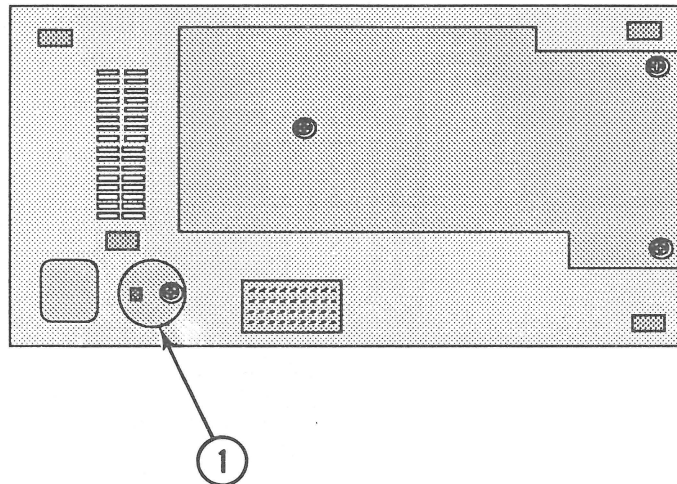

FIGURE 4
1. Locate the cover plate on the bottom of the scanner (Figure 4, #1).